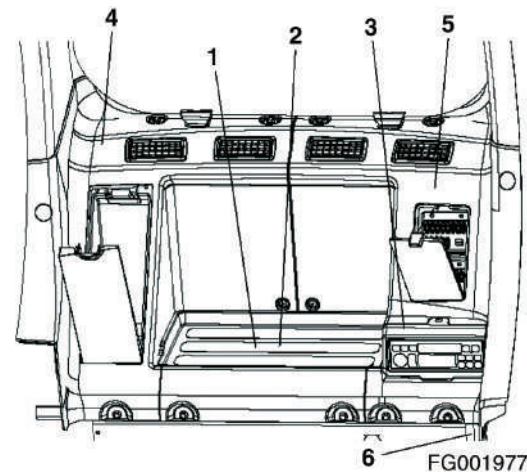

Figure 3
15. After removing rear mat (1, Figure 3), remove rear center cover (2, Figure 3), cassette cover(3, Figure 3) and rear side covers (4 and 5, Figure 3).